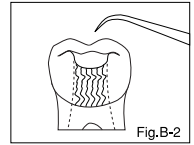

Fig.B-2
- b) Fill the chamber with a cotton pellet (Fig.B-2).